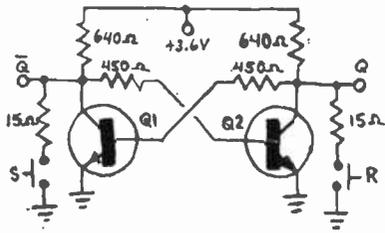

Fig. 1. A bistable multivibrator consists of a pair of amplifier stages whose inputs and outputs are cross-coupled to each other.
form of the bistable multivibrator. As shown in Fig. 1, a bistable multivibrator is simply a pair of amplifier stages whose inputs and outputs are cross-coupled to each other.
When power is applied to the circuit in Fig. 1, a state in which one transistor conducts heavily and the other transistor is held at cutoff is forced upon the circuit. A heavily conducting transistor has a collector-to-emitter resistance that is very low (on the order of between 10 and 20 ohms). If the collector load resistance is about 40 times this value (typically 640 ohms in an IC package), virtually the entire supply voltage is dropped across the load resistor, and the collector is essentially at ground potential. When a transistor is cut off, its collector-to-emitter resistance is so high that it can be considered as an
In Fig. 2, making the input of  $Q_3$  positive ( $S = 1$ ) has the same effect as pressing switch  $S$  in Fig. 1. Similarly, making the input of  $Q_4$
**The Toggled Flip-Flop.** There are certain advantages to having a flip-flop that can be made to toggle or shift from state to state with the application of a pulse to a single input point and without having any doubtful states. The circuits in Fig. 1 and 2 cannot accomplish this. What is needed is a circuit like that shown in Fig. 3, in which diode gates are used to "steer" the input pulse to the side of the circuit where it will be effective. (The diodes in this circuit are biased according to the conductive states of their respective transistors. This means that one of the diodes will be biased in such a way that it cannot pass the pulse, while the other diode, more appropriately biased, can at any given instant.)
Fig. 1. The circuit is essentially a very high input resistance d.c. voltmeter with a MOSFET. It measures charge on capacitor C1, which is a function of how long light is applied to Q1.
The schematic of the circuit is shown in Fig. 1. A foil pattern for a printed circuit board and component mounting layout are shown in Fig. 2. The printed circuit board was designed to mount directly on the meter terminals. If you do not want to use the PC board, assemble the circuit on perforated board following the same layout. Note that 5% resistors are used for R2, R3, and R4 to obtain nominal accuracy. For greater accuracy use 1% resistors. It is also important that capacitor C1 be hermetically sealed (glass or ceramic with metal) and of high quality. If you use the foil pattern, the potentiometers specified in the Parts List cannot be substituted.